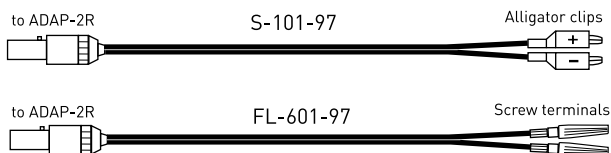

Figure 13: Single-use cable by Remington Medical Inc. (USA only)
- **Adapter cable ADAP-2R** is a reusable cable to connect the single-use cables according to Figure 13 (for USA only) to Reacor D (use the Redel adapter).